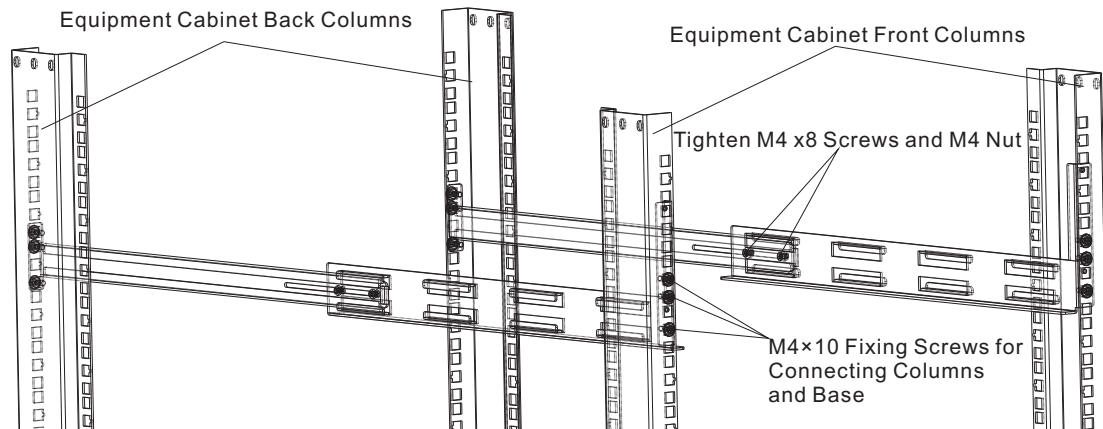

Figure 3 Guide Rail and Equipment Cabinet Columns Connection
2. Respectively connect the two guide rails and the four columns via three M4 × 10 screws for connecting columns and base for each column. If the columns distance is larger than 825mm (32.5 inch), fasten the M4 × 8 sunk screws and the M4 nut installed in step 1, as shown in Figure 3.